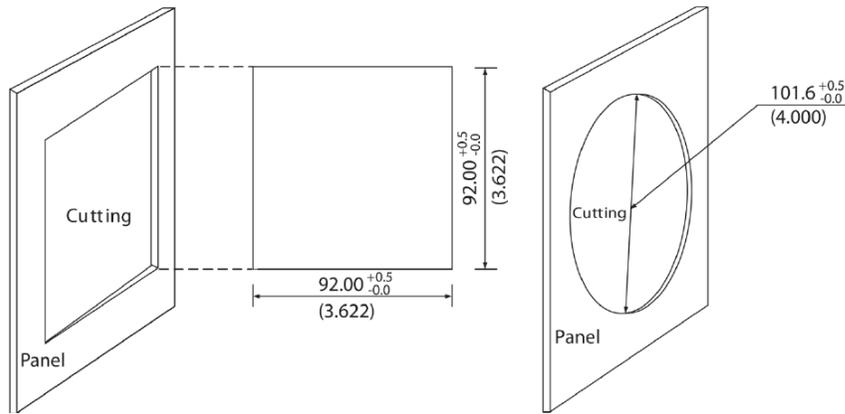

Figure 2: Panel Cutout
1. Cut a square hole or round hole on the panel of the switch gear. The cutting size is show in fig 2.